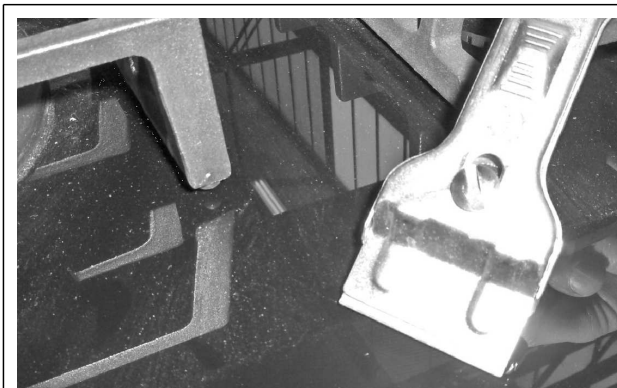

FIG. 3
- Tough, encrusted dirt is easily eliminated using a scraper (fig. 3), not supplied with the hob, but easy to find in local stores. ***Use the scraper carefully to avoid damaging the hob.***